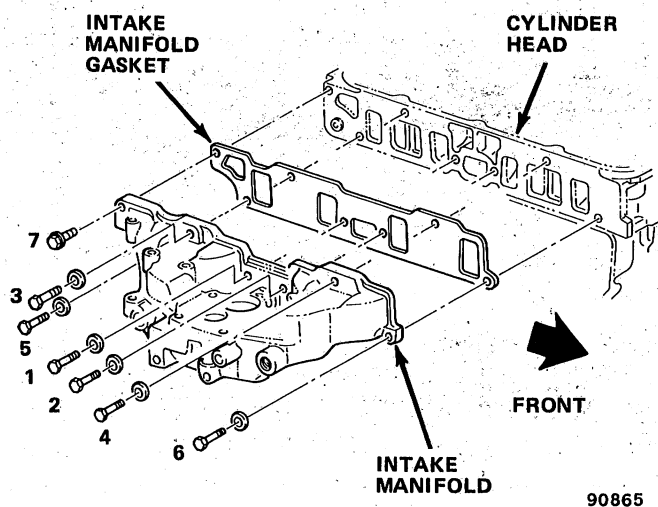

Fig. 1B-23 Intake Manifold Bolt Tightening Sequence
- (4) Tag and remove vacuum hoses (ensure distributor vacuum advance hose is removed).
- (5) Disconnect fuel pipe and electrical wire connections from carburetor.
- (6) Disconnect carburetor throttle linkage. Remove carburetor and carburetor spacer.
- (7) Remove bellcrank and throttle linkage brackets and move to one side for clearance.
- (8) Remove heater hose at intake manifold.
- (9) Remove air pump and bracket, if equipped. Note position of spacers for installation.
- (10) Remove manifold-to-cylinder head bolts and remove manifold.
- (11) Position replacement gasket and install replacement manifold on cylinder head. Start all bolts.
- (12) Tighten manifold-to-cylinder head bolts using sequence illustrated in figure 1B-23. Tighten all bolts with 37 foot-pounds (50 N•m) torque.